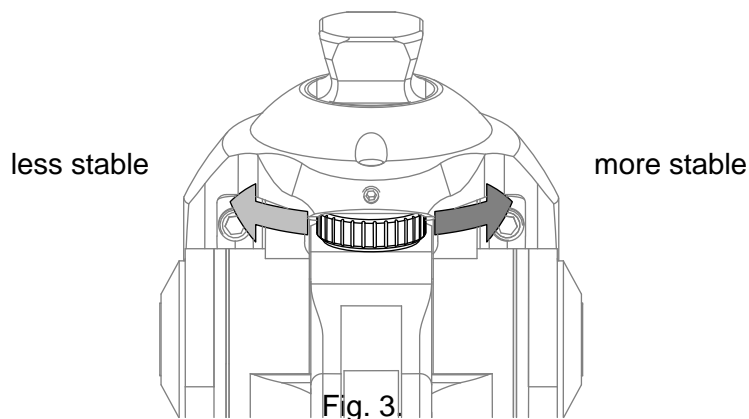

Fig. 3.
- ② Rotate Stability Adjustment Screw by thumb for proposed direction (Fig. 3).